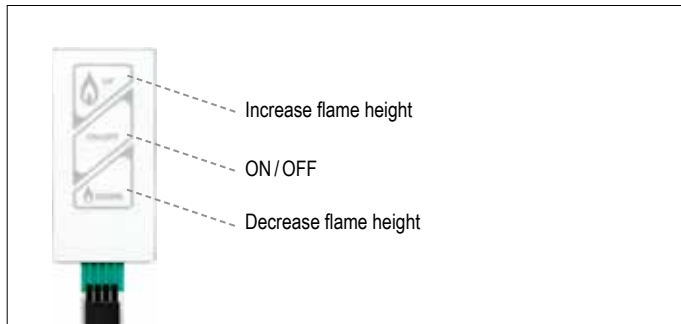

Figure 19: Touchpad/Wall Switch
- Press **ON-OFF** button (see figure 19, page 11) until two short beeps (CE version) or continuous beeping (CSA version) confirm the start sequence has begun; release button.